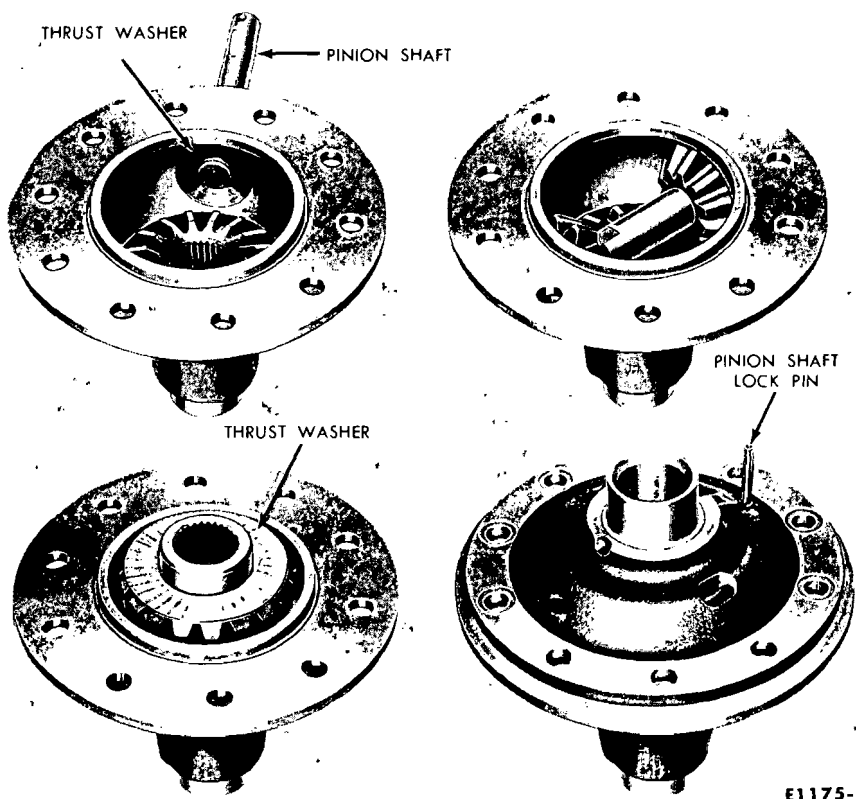

FIG. 34—Assembly of Differential Case
8. Remove the gears and thrust washers. (Fig. 34).
1. Place a side gear and thrust washer in the differential case bore (Fig. 34). Lubricate all differential parts liberally with axle lubricant during assembly.
4. Place the second side gear and thrust washer in position (Fig. 34), and install the cover on the differential case. Install the pinion shaft lock pin. A pinion or axle shaft spline can be inserted in the side gear spline to check for free rotation of the differential gears.